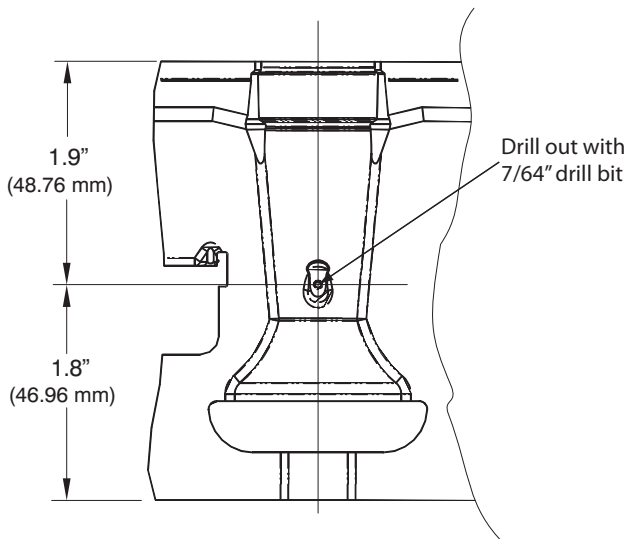

Figure 6 – Mixer Screw Location
3. If you cannot locate the dimple, refer to **Figure 6** for location of the mixer screw.